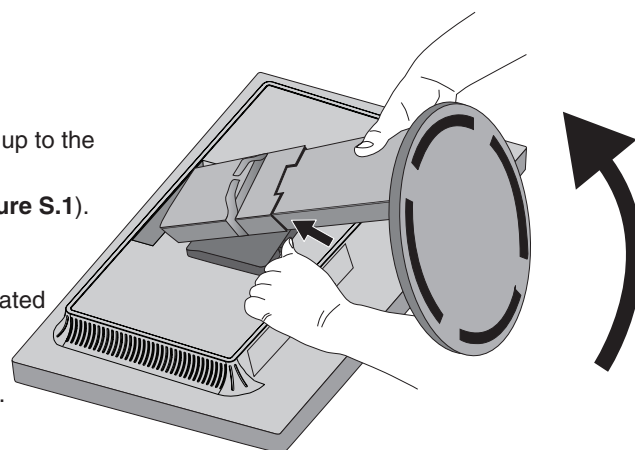

Figure S.1
3. Place the monitor face down on a non-abrasive surface (**Figure S.1**).
4. Place one hand around the base and one hand on the Quick Release Lever. Push and hold the Quick Release Lever in the direction indicated by the arrow (**Figure S.1**).
5. Lift up the stand to unhook it from the monitor (**Figure S.1**). The monitor can now be mounted using an alternate method. Reverse the process to reattach the stand.